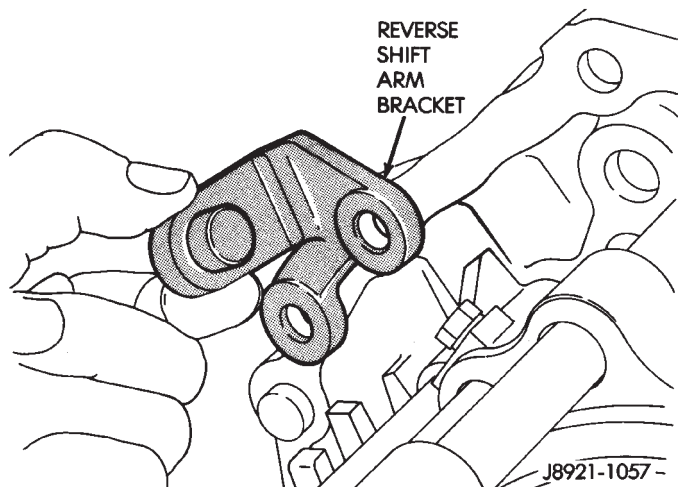

Fig. 27 Reverse Shift Arm Bracket Removal
(6) Remove bolts attaching reverse shift arm bracket to intermediate plate. Then remove bracket (Fig. 27).